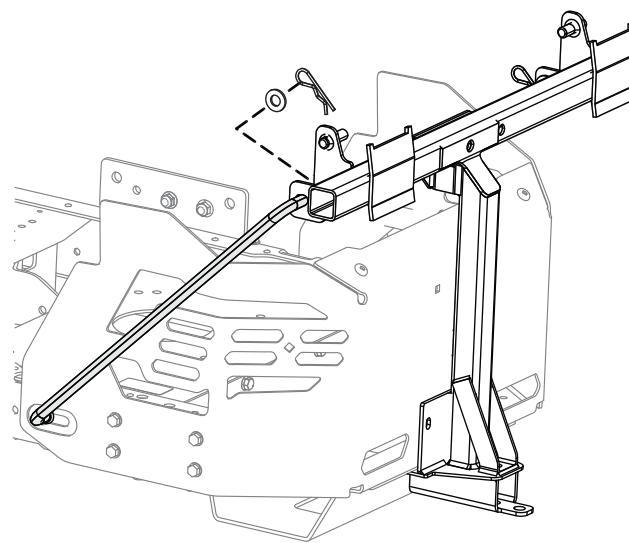

Figure 5
8. Insert the bent ends of the rods into the attachment mount as shown in Figure 5 and secure the end of each rod with a washer and hairpin cotter.
7. Install the bent, flared end of a rod into the keyed slot in the left side of the machine frame, and move the rod rearward to seat it in the frame (Figure 5).